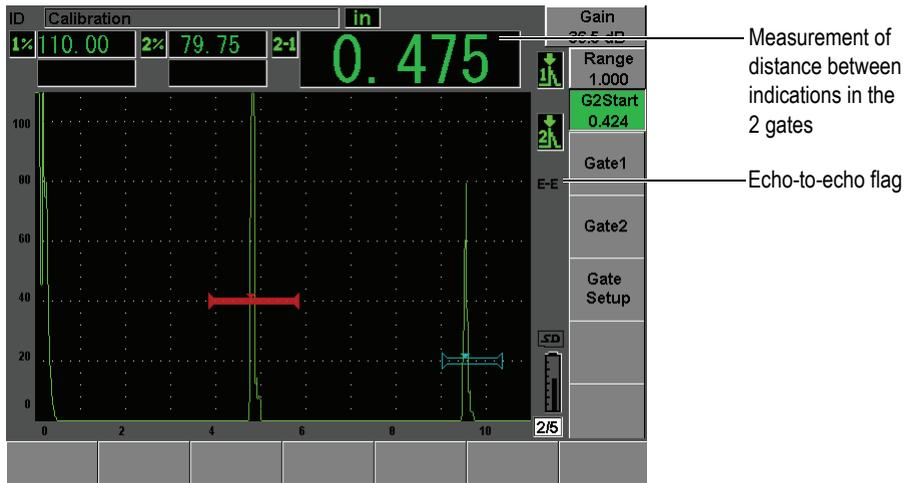

Figure 8-6 Echo-to-echo measurement example
2. As shown in the example of Figure 8-6 on page 137, position gate 1 over the first echo to detect, and then position gate 2 over the second echo to detect. The **Gate 2 > Start** position defines the separation between the position of the indication in gate 1 and the start of gate 2.